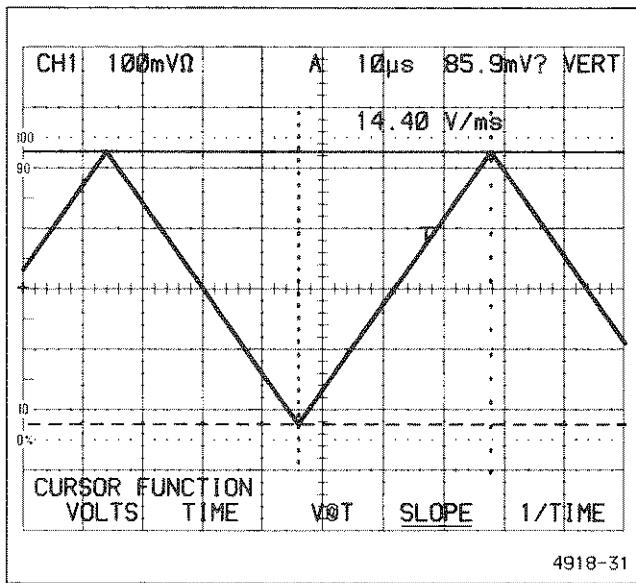

Figure 6-17. Slope measurement on a triangle-waveform.
4. The cursor readout indicates the average slope between the two points in V/s (see Figure 6-17).